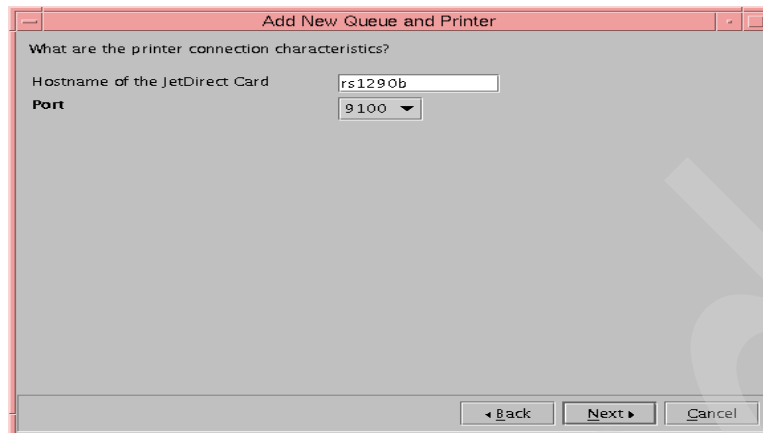

Figure 79. JetDirect-attached hostname
8. We provided the hostname of the JetDirect card in the panel shown in Figure 79 and clicked **Next**.